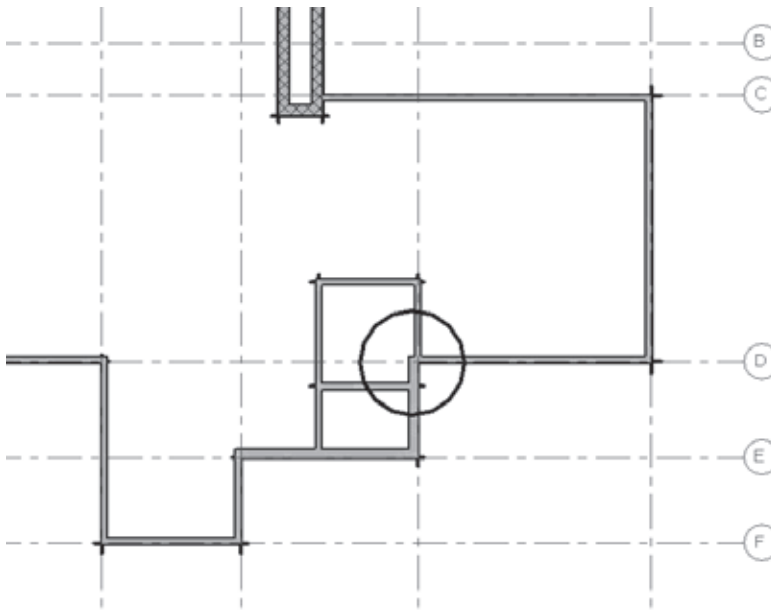

Figure 4.47
8. Using the technique you just went through, clean up the condition shown in Figure 4.47.